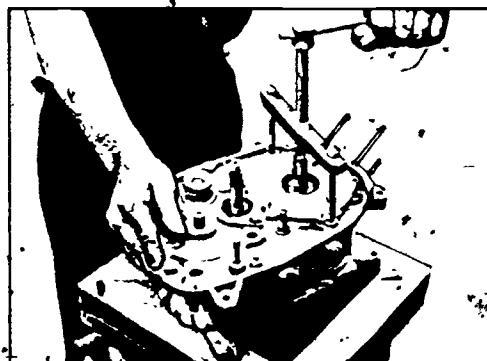

FIGURE 3
- 1) Install case divider tool (Figure 3)